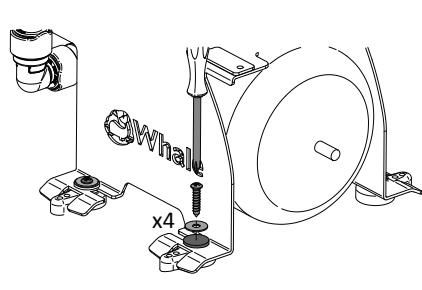
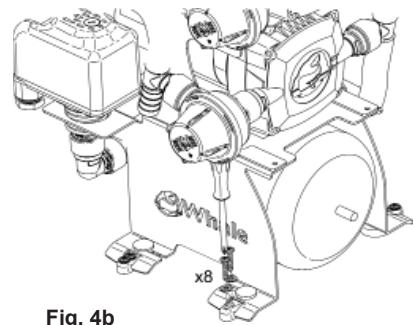

Fig. 4a
Fig. 4b
Step 3 Use stainless steel screws and washers to secure the kit to a solid surface. Four screws and washers can be used through the centre of the feet (see Fig. 4a), or 8 screws and washers as shown in Fig 4b.
Figure 4a and 4b Securing Kit